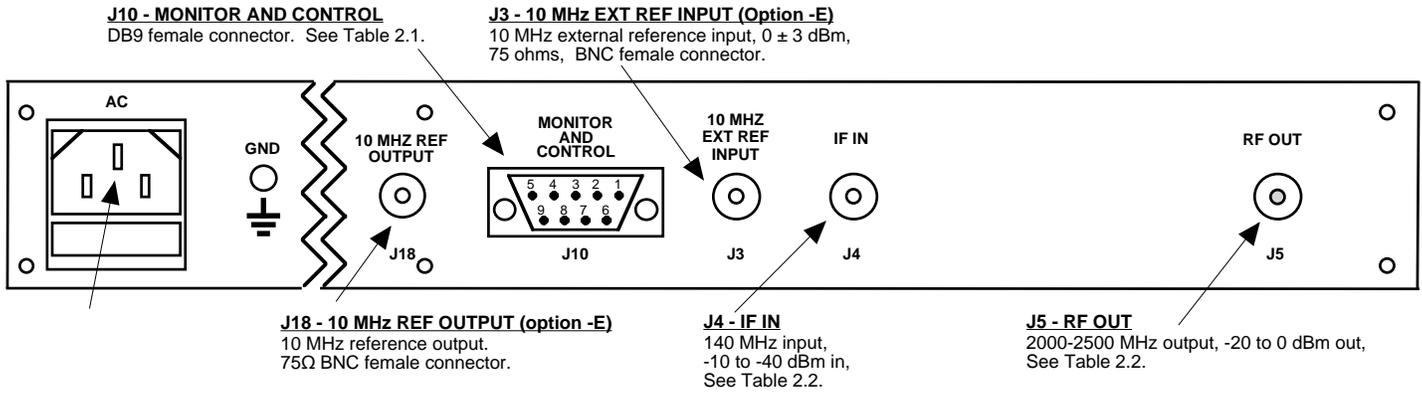

FIGURE 2.2 2015-26 Rear Panel I/Os
2.2 Rear Panel Input/Output Signals - Figure 2.2 shows the input and output connectors on the rear panel.
1. Connect a -10 dBm to -40 dBm signal to IF In, J4 (Figure 2.2)